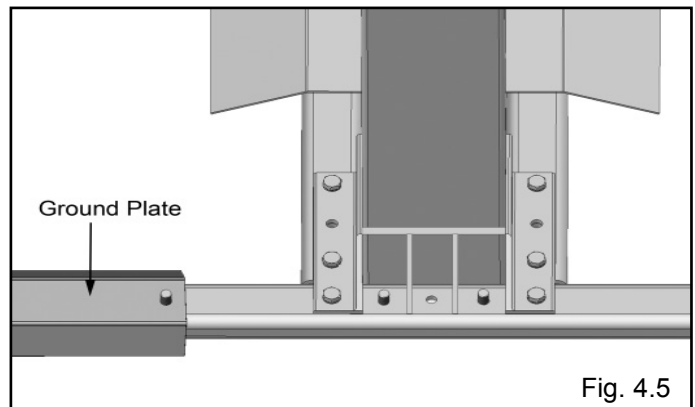

Fig. 4.5
5. Remove the nut from the anchor on the left side of the Rear Leg and place the Ground Plate over the Anchor Bolt. (See Fig. 4.5)